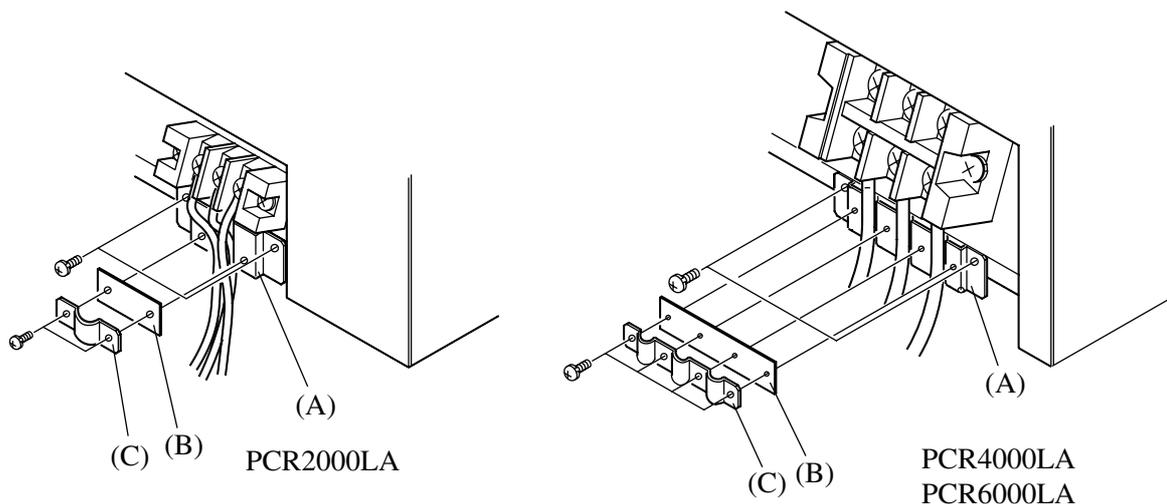

Fig. 2-7 Installing a Cable Clamber
5. Install the cable clamber provided, and fix the input power cable(s) securely (Fig. 2-7).